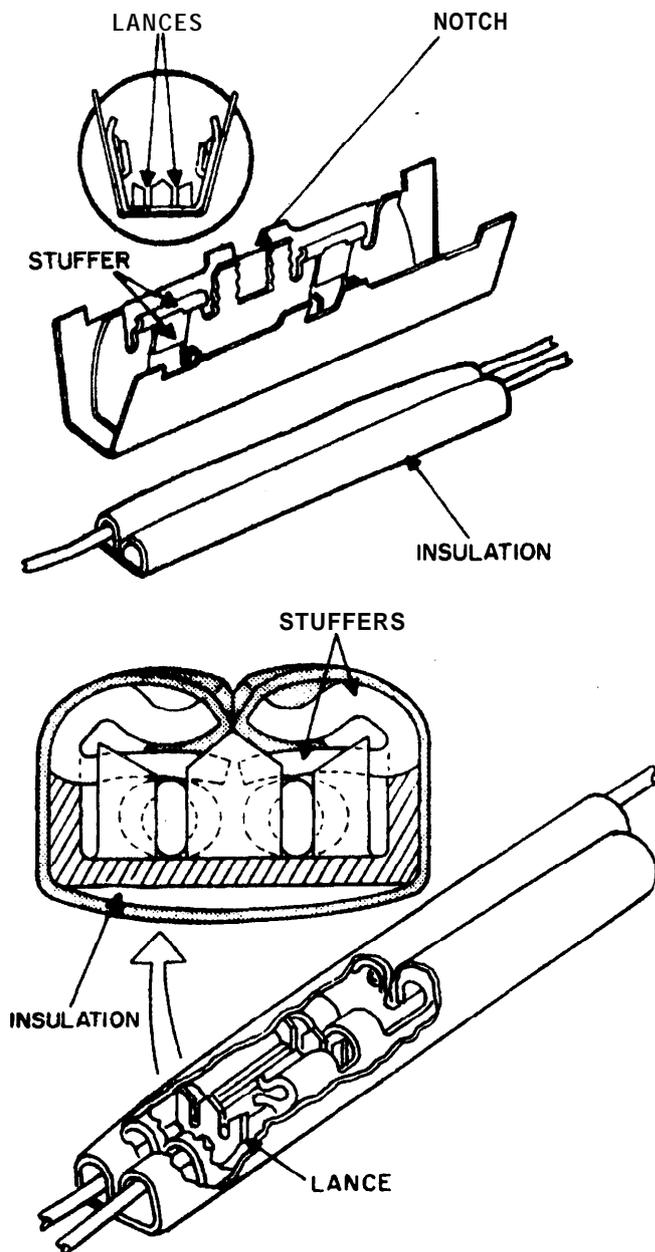

Figure 4. Connector Features—Uncrimped and Crimped.
2.02 Stuffers in the barrel force the conductor down into the lances to ensure good contact. They also press against the wire to increase tensile strength. See Figure 4.